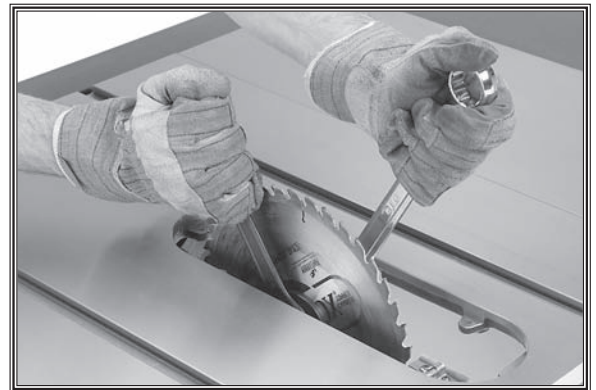

Figure 2. Loosening arbor nut.
5. Re-install the arbor flange and the arbor nut, then tighten them against the blade with the wrenches included with the saw, as shown in **Figure 2**. DO NOT overtighten.